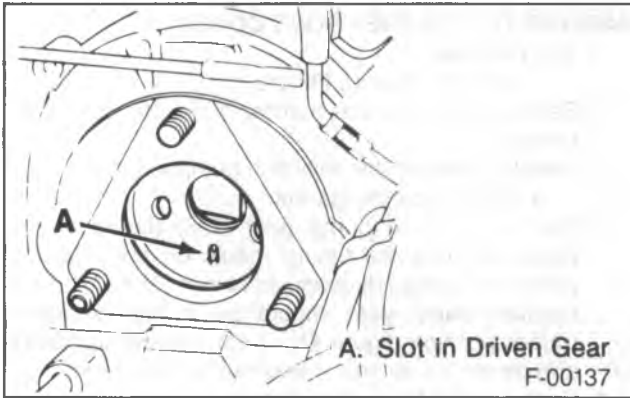
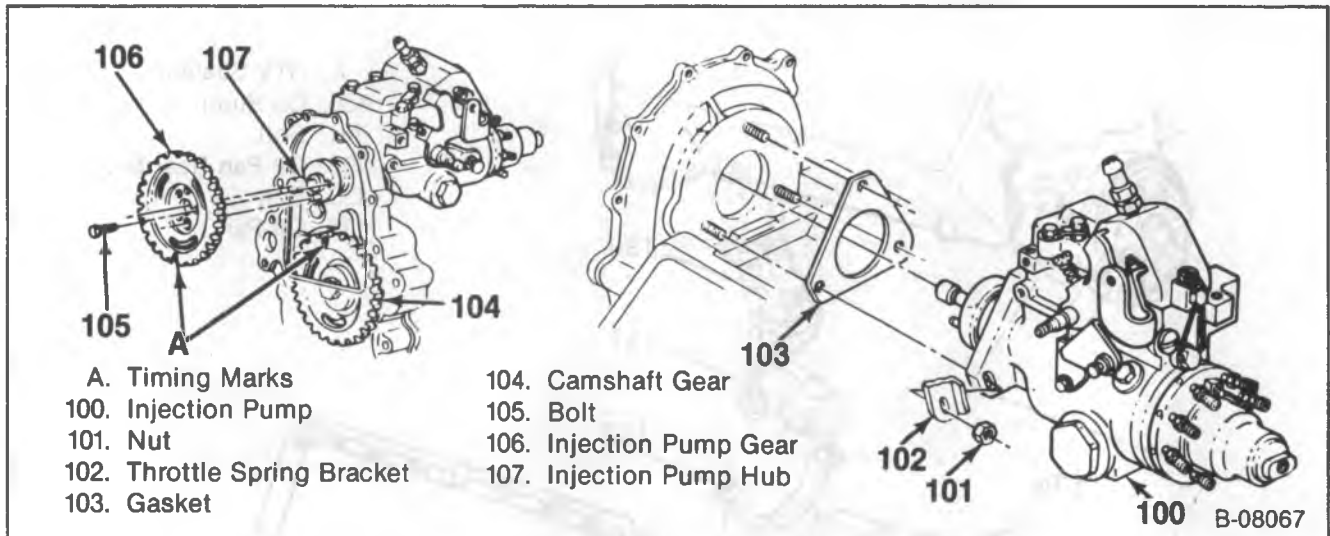
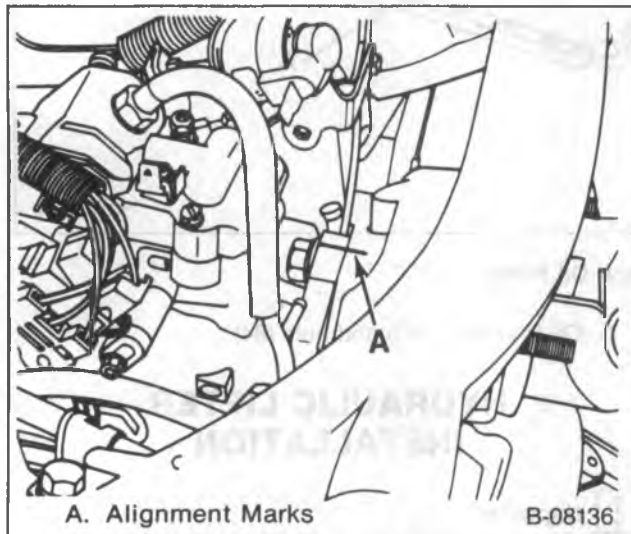

Figure 41—Slot in Injection Pump Gear
Figure 44—Injection Pump
Figure 45—Injection Pump Timing Marks
3. Set the injection pump gear (106) (figure 44) in place, aligning the timing marks on the injection pump and camshaft gears, as shown. The slot in the injection pump gear should be in the vertical 6 o'clock position (figure 41). If not, remove J 333042 and rotate the engine crankshaft 360 degrees.
**Install or Connect (Figure 44)**
1. Gasket (103) to the front cover.
2. Injection pump (100).
3. Throttle spring bracket (102).
4. Nuts (101). Leave finger tight until the injection pump timing is adjusted.
5. Injection pump gear (106). Align the slot in the injection pump with the locating pin on the injection pump hub (107).
- Align the timing marks (figure 44).
6. Bolts (105).
- Bolts (105) to 25 N·m (20 ft. lbs.).
**Adjust (Figure 45)**
- Injection pump timing. For the engine to be properly timed, the marks on the top of the engine front cover must be aligned with the marks on the injection pump flange (figure 45). The engine must be off when the timing is reset.
**Tighten (Figure 44)**
- Nuts (101) to 40 N·m (30 ft. lbs.).